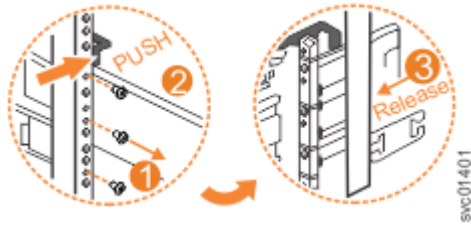

Figure 110. Remove the rail assembly from the rear frame bracket
3. Remove the two screws that attach the inner rail section to the rear bracket, as shown in Figure 110 on page 167.
4. Pull the rail forward away from the rear bracket, as shown in Figure 110 on page 167.